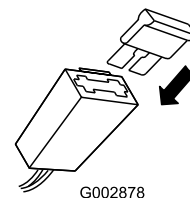

Figure 9
2. Insert the fuse into the fuse holder (Figure 9).